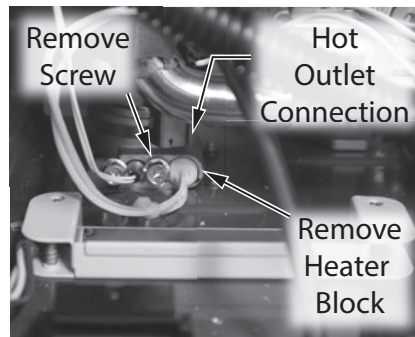

Figure 35 - Remove hot outlet connection heater block
- 14 Locate the screw securing the heater block inside the hot outlet connection as shown in Figure 35. Use a 12" Phillips screwdriver (magnetized) to remove screw. Place screw aside in a safe place for reinstallation. Remove heater block from hot outlet connection.